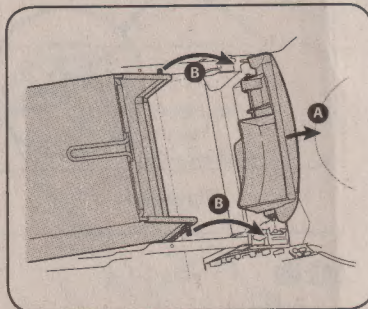

Figure 2-9
2. Follow steps below to attach grass catcher. See Figure 2-9.